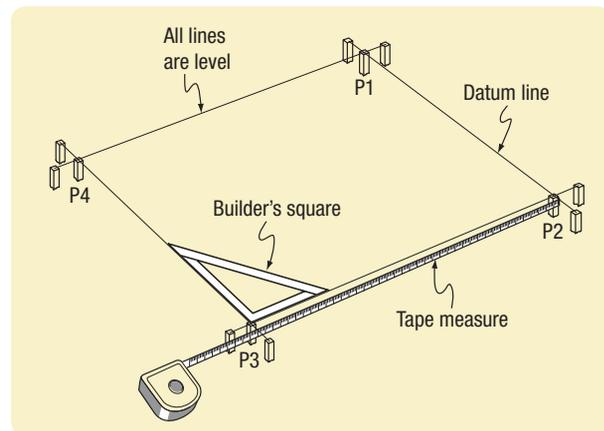

Figure 4.10 Using a builder's square and a tape measure to place Peg 4
- Use a builder's square and tape measure to measure the length from Peg 3, and place Peg 4 (see Figure 4.10).